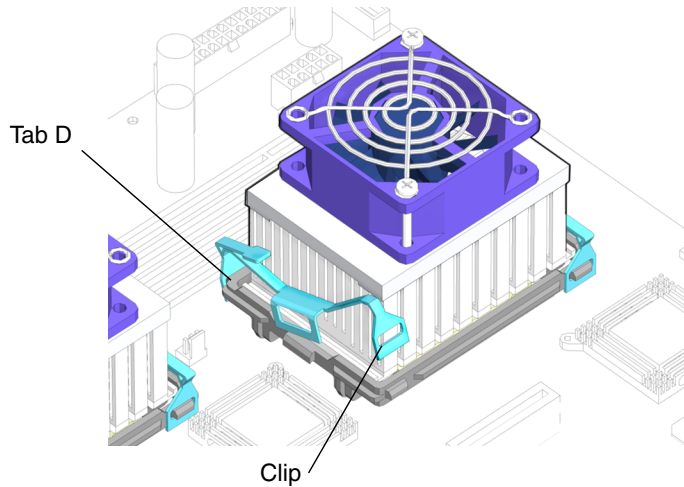

FIGURE 11-18 Installing the Clip over Tab D
- e. Place the left CPU fan and heat sink assembly clip over CPU yoke bracket tab d (FIGURE 11-18).